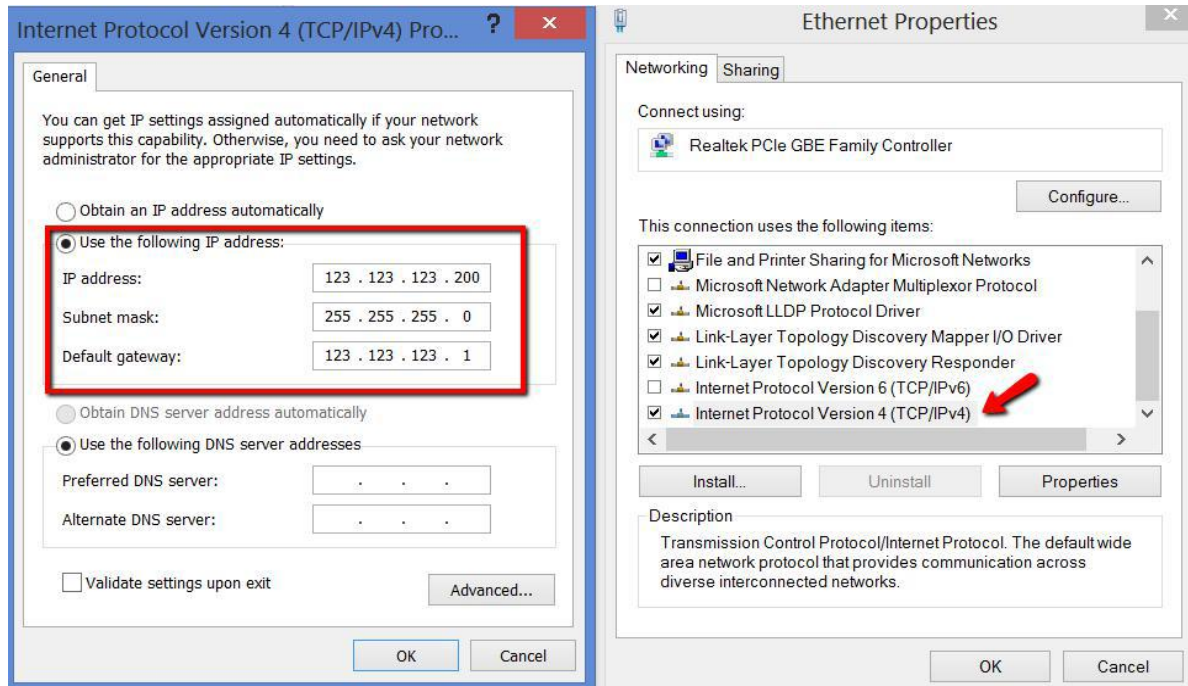

Figure 23 IP Setting
p. Scroll Down and double click “TCP//IPv4” and Set the IP as below Figure 23.